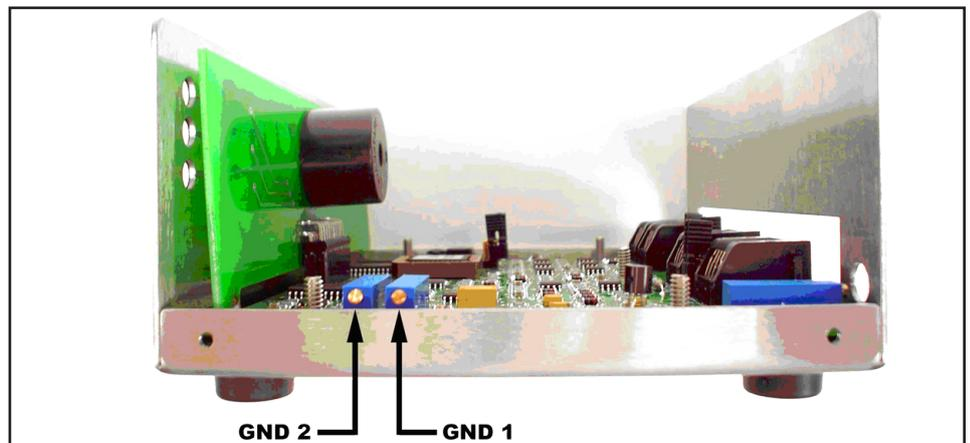

Figure 7. GND 1 and GND 2 Potentiometers
- II. The associated potentiometers need to be adjusted fully clockwise. The pots are located inside the unit on the bottom board. The potentiometer closest to the rear of the unit is for GND 1 and the one closest to the front of the unit is for GND 2 (See Figure 7).
- V. Turn the appropriate pot (See Figure 7) counterclockwise until the GROUND FAIL (red LED).
- V. Turn the appropriate pot (See Figure 7) counterclockwise until the GROUND FAILS (red LED).